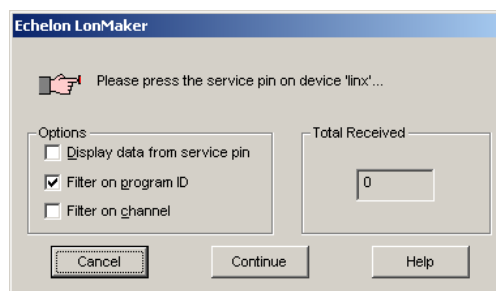

Figure 98: Wait for the service pin from the device.
7. Then the service pin requestor opens as shown in Figure 98. Press the service pin on the replacement device on the correct port. You can also send the service pin from the device information page on the Web interface.